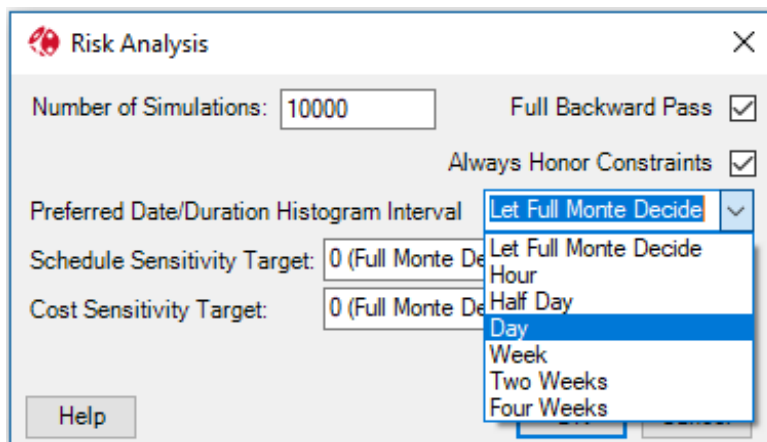

Figure 8.2
**Preferred Date/Duration Histogram Interval:** By default, Full Monte decides from the data what interval to use for the histograms generated by the risk analysis process. This may result in histograms for different activities being in different units, say days or weeks, making comparisons difficult. You can specify a preferred interval here, from an hour to four weeks, as indicated in figure 8.2.